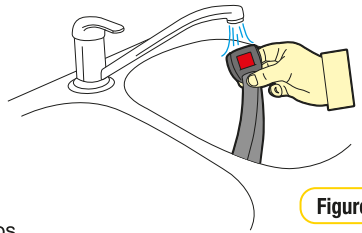

Figure 2
**Step 2:** Place the Harness Buckle under warm (max. 40 degrees Celsius) running water as shown below. Let the water run through the mouth of the buckle for five minutes (refer Figure 2).